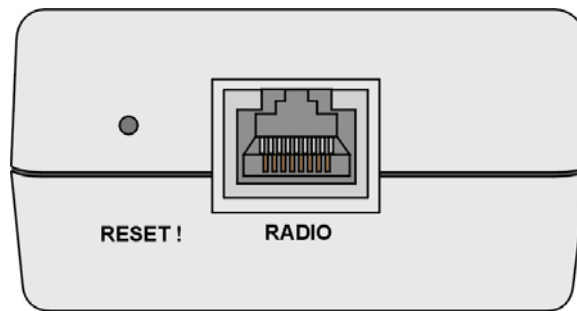

Figure 2-13: CPE-IDU-1D Front Panel
- 2 Connect the IDU-ODU cable to the RADIO connector. The RADIO connector in the CPE-IDU-1D is located on the front panel as shown in Figure 2-13.